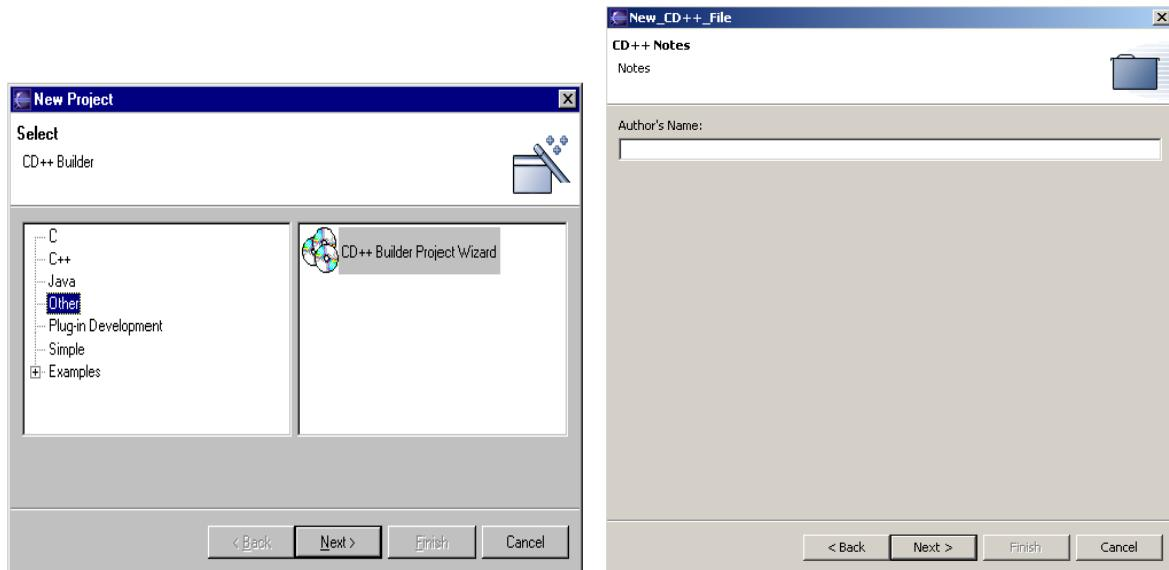

Figure 15 (a). New project wizard panel (b) Author's Name panel
Step 1: Select *File* on the main menu of Eclipse. Select *new*, and then click on *project*. The panel in Figure 15(a) will appear.
Step 2: Select *Other* on the left pane. Select *CD++ Builder Wizard* on the right pane. Click *Next*. The panel in Figure 15(b) should appear.